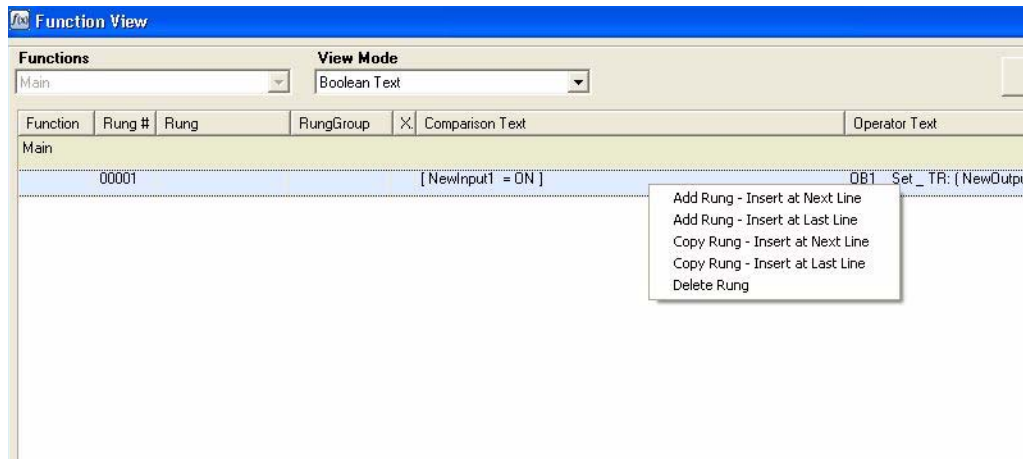

Figure 4
*Note: Right-clicking in the Function View window (Figure 4) brings up a selectable menu for Adding, Copying and Deleting Rungs.*